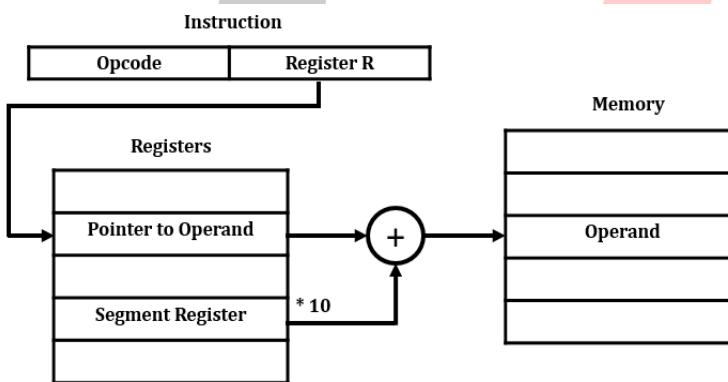

Figure 2.8: Register Indirect Addressing Mode.
- The address is added with the segment register \* 10 H to generate the physical address as shown in figure 2.8.